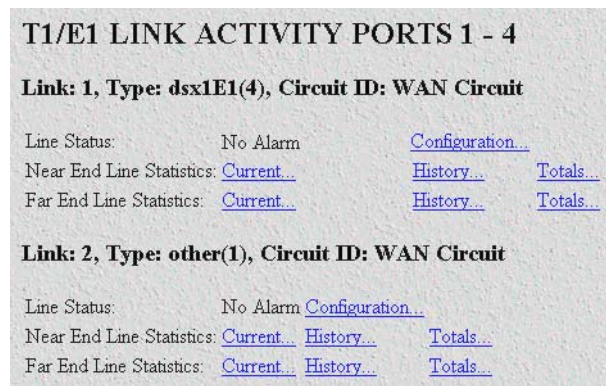

Figure 42. T1/E1 Link Activity Ports 1 – 4 page.
2. *View Link 1* corresponds to the first WAN circuit on the T-DAC. To the right of *View Links 1-4* click the *View Links...* hyperlink to open the **T1/E1 LINK ACTIVITY PORTS 1 – 4** page (figure 42).